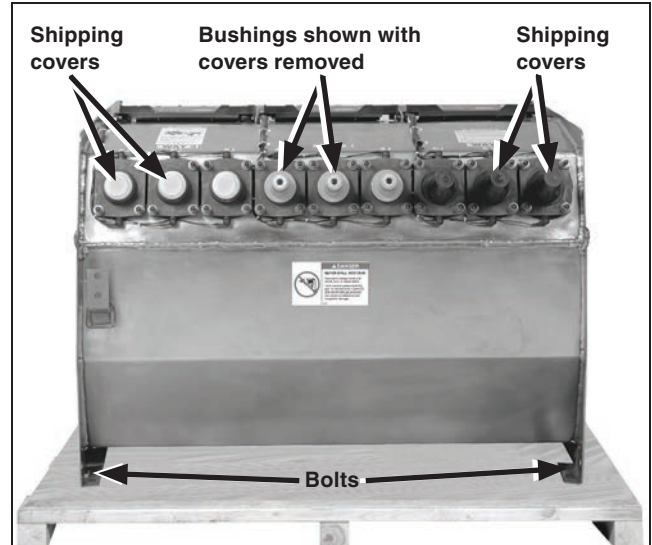

Figure 79. The switchgear is bolted to skid in four places for shipment.
- STEP 1.** Remove the switchgear from its crate and lift the gear, observing the precautions in the “Handling” section on page 43. See Figure 79.